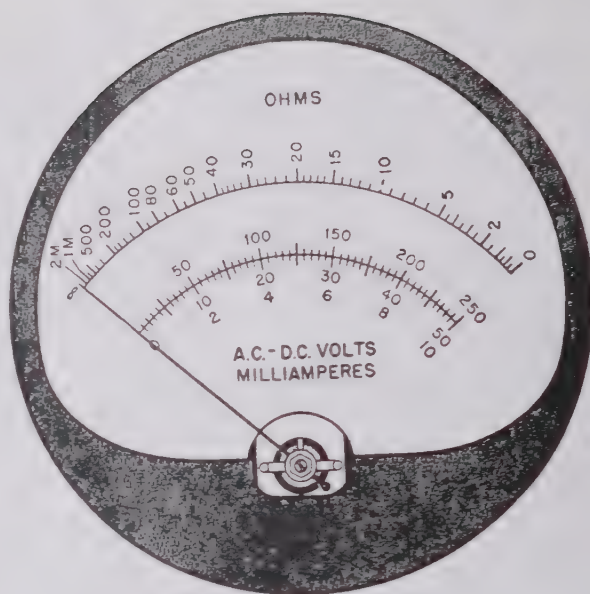

Figure 46. Resistance, a-c, and d-c scales of typical multimeter.
d. For simplicity of reading, most multimeters have three scales, one for resistance measurements, one for d-c volts and milliamperes, and another for a-c volts. The scales usually are provided with a single set of calibration marks and with one or more sets of numerals at the major marks or dimensions. Selection of the individual ranges of measurements to be used determines the multiplying factor to be applied. For example, if the meter d-c voltage ranges are 0 to 10, 50, 250, 500, and 1,000 volts, only three calibrations are required on the indicator scale (fig. 46). The values for the 0- to 10-, 50-, and 250-volt ranges are read directly off the scale. For the 0- to 500-volt range, the 0-to-50 calibration is used, and each reading is multiplied by 10. If a value of 350 volts is being measured, the needle points to 35 on the 0-to-50 scale. Multiplying 35 by 10 gives the true value of 350 volts. Similarly, when measuring resistance with the range selector switch at the $R \times 100$ setting, each reading on the ohmmeter scale is multiplied by 100 for the true measured resistance value.